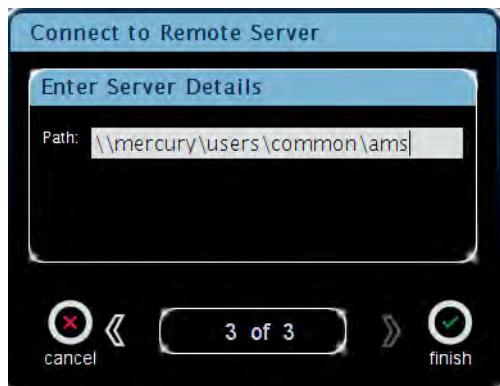

Figure A-8 Enter Server Details Screen
4. Enter a path in the **Enter Server Details** screen, as shown in Figure A-8 (for a Windows share/SMB path), then click **finish**.